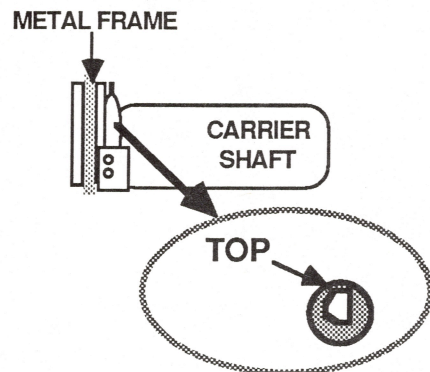

FIGURE 41A
**IMPORTANT:** BEFORE PERFORMING THIS PROCEDURE CHECK THE CAM WASHER ON THE LEFT SIDE OF THE CARRIER SHAFT TO BE SURE IT IS IN POSITION (SEE FIGURE 41A). THE SMALLER DIAMETER SHOULD BE IN THE TOP POSITION WHEN POSITIONING IT ONTO THE CARRIER SHAFT. REFER TO "REMOVE CARRIER BLOCK ASSEMBLY AND PRINT HEAD PCB" FOR THESE PROCEDURES.
**NOTE:** A shim is a small 3-sided metal piece with two holes on one side (see Figure 41A). The shim is used to correct the distance between the print head and the platen.